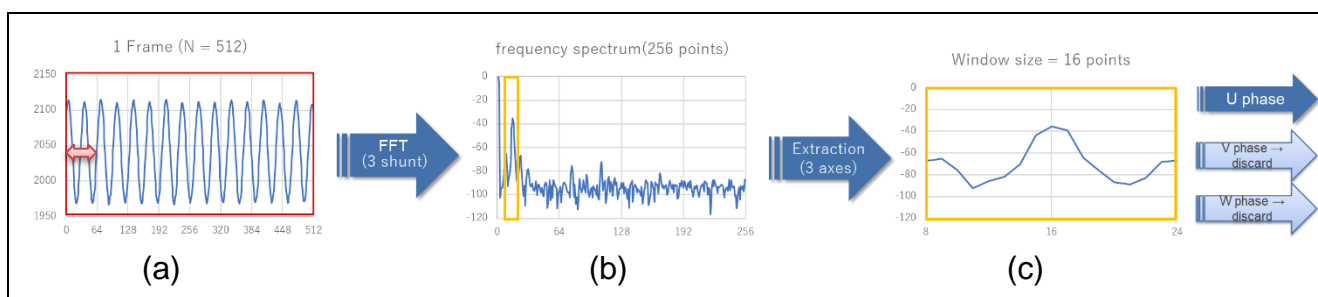

Figure 4-5. Data Preprocessing Flow
- ② Feature values cannot be detected on the time axis, so the framed motor drive current A/D conversion value is FFT processed and converted to the frequency axis, as shown in Figure 4-5 graph (a). In the target system, features are detected around the peak value of the fundamental frequency outlined in yellow in Figure 4-5. Data Preprocessing Flow graph (b).
- ③ A total of 16 points before and after the peak value where the feature value was detected are extracted, as shown in Figure 4-5 graph (c), and used as input data. Only the U phase is used as data for the AI model.